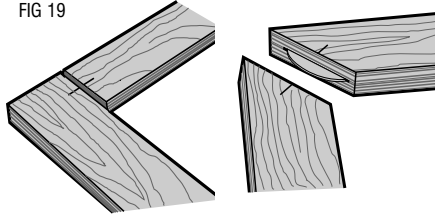

FIG 20
- Clamp the workpiece and position the Plate Joiner to make the first cut (see Figure 20).